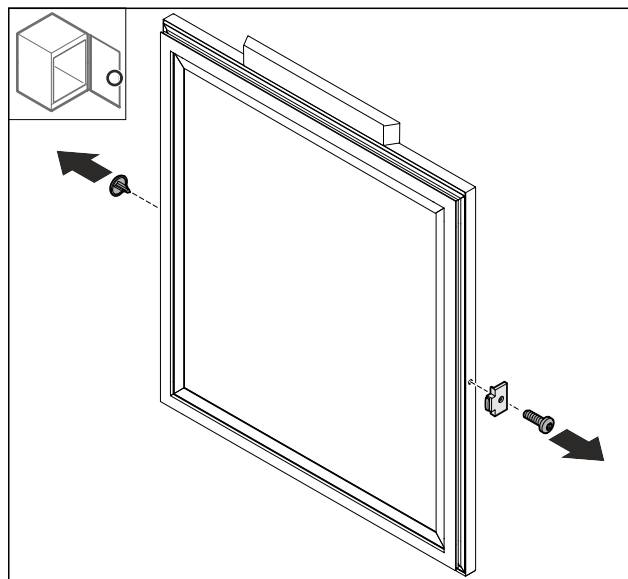

Fig. 46
- Remove the Fig. 46 (1) cover.
- Pull off the door stopper Fig. 46 (2).